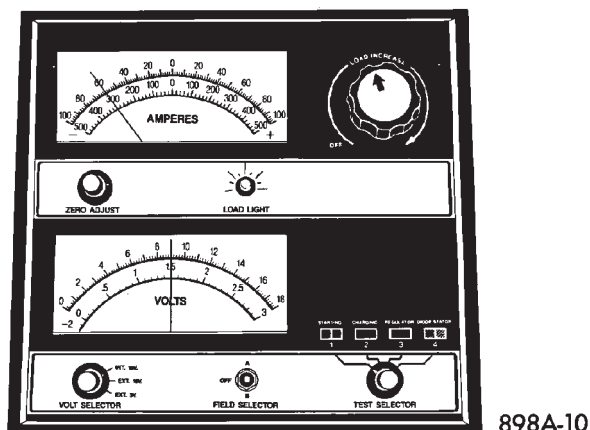

Fig. 6 Remove Surface Charge from Battery
(3) Rotate the load control knob of the carbon pile rheostat to apply a 260 amp load. Apply this load for 15 seconds to remove the surface charge from the battery, and return the control knob to off (Fig. 6).